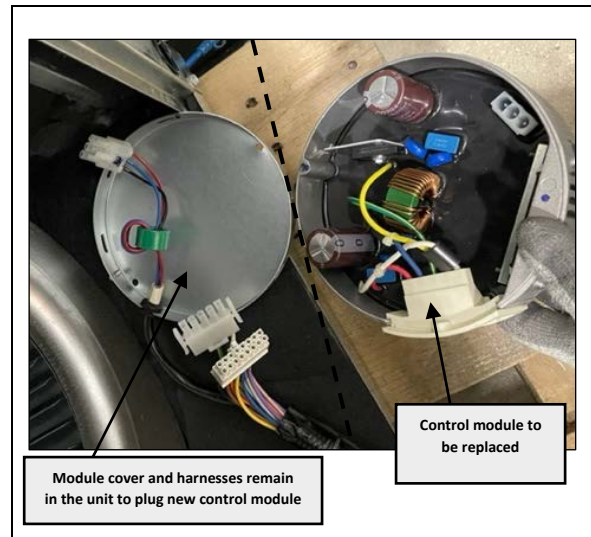

Fig.7 After the harness is unplugged, module cover and harness are separated from the control module
**Step 7.** The module cover and the three electrical harnesses remain in the unit in preparation to connect the new control module. The old control module can be discarded. (See Fig. 7).
**Step 9.** Remake the electrical connections removed on step 6 onto the replacement control module (Refer to Fig. 7).